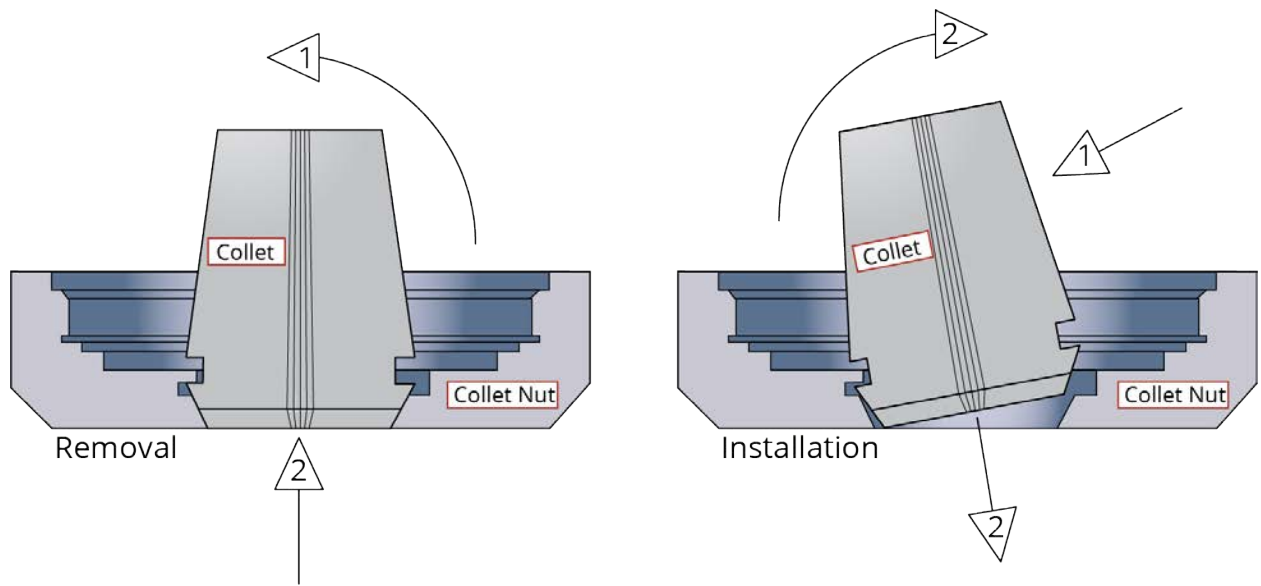

Figure 2-6: Schematic of Collet Insertion Into and Removal From Collet Nut
- Step 5: Refer to the instructions in Figure 2-6 to install or remove a collet from the collet nut.